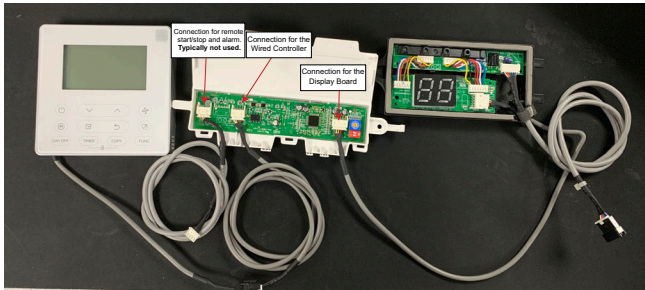

Fig. 14 — Wired Controller, Adapter Board, and Display Board
3. Identify the components shown in Fig. 14 (from left to right; the wired controller, adapter board and the display board).